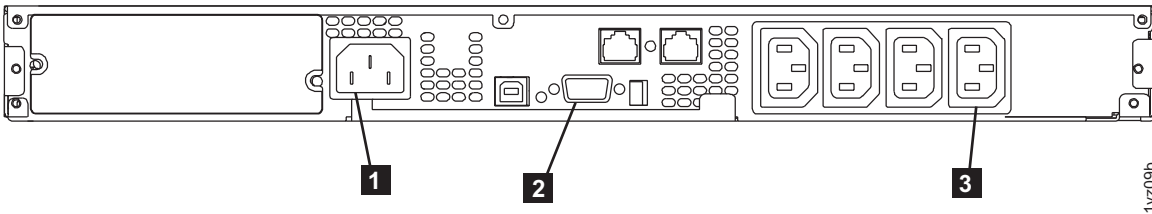

Figure 321. 2145 UPS-1U (rear view)
9. At the back of the 2145 UPS-1U, connect the SAN Volume Controller power cable to load segment 2 receptacle ( **3** in Figure 321 on page 314). If applicable, install the power cable-retention bracket (shown in Figure 320 on page 314).
10. Reconnect the SAN Volume Controller signal cable to the communication port ( **2** in Figure 321).
11. Reconnect the 2145 UPS-1U main power cable, from either the power distribution unit or from the redundant ac-power switch, into the input connector ( **1** in Figure 321).
The 2145 UPS-1U is now in standby mode with the SAN Volume Controller offline. All indicators that are shown in Figure 321 are off.